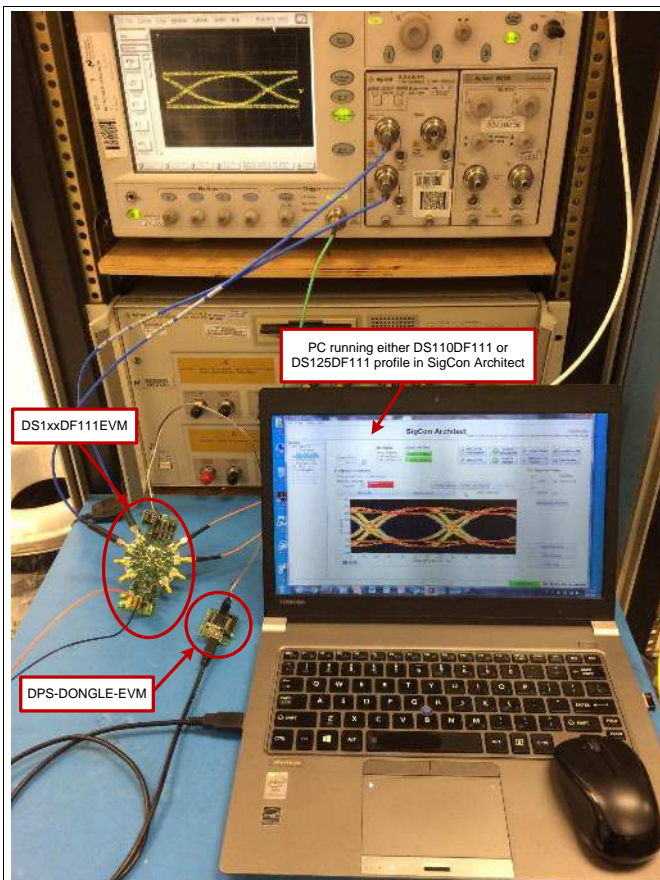
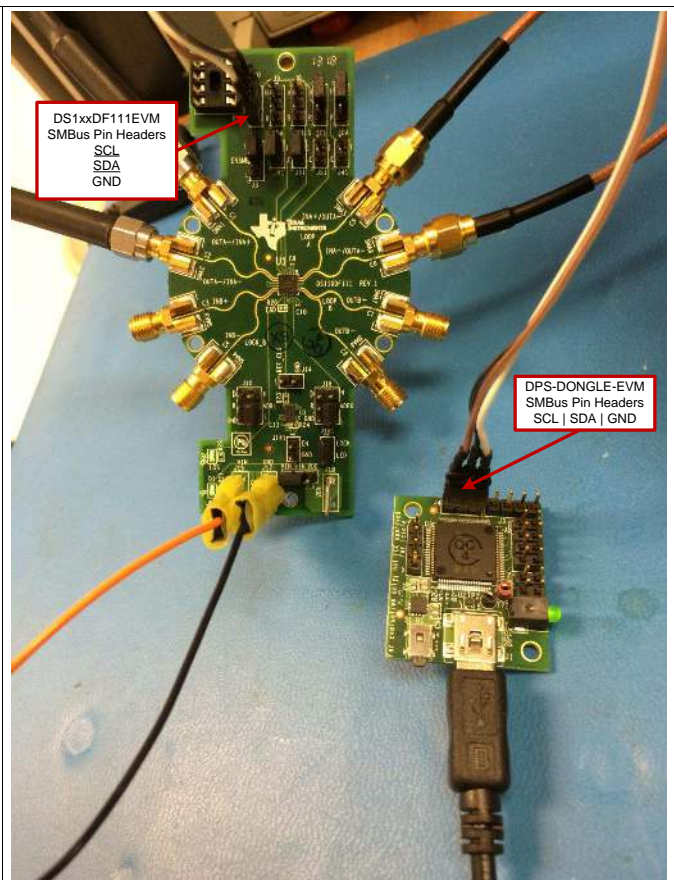

Figure 3. DS1xxDF111EVM Slave Mode Full Setup
Figure 4. DS1xxDF111EVM Slave Mode Close-Up
7. The DS110DF111's control and signal integrity settings are programmable with SigCon Architect, a GUI which supports full register access through SMBus communication. An example of a DS1xxDF111EVM connected to a PC through a DPS-DONGLE-EVM is shown in Figure 3 and Figure 4. The possible SMBus address settings are shown in Table 5. For more information about SigCon Architect, reference the "SigCon Architect: Installation and Starter's Guide" (SNLU178).